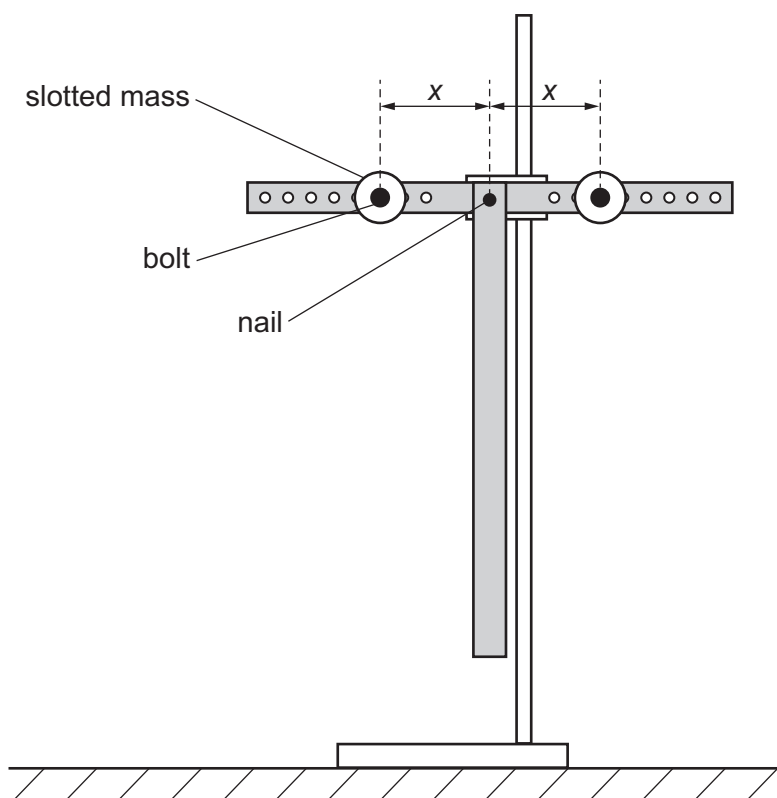

Fig. 1.3
- Attach two 50g slotted masses to the pendulum using the bolts and nuts. Use two holes which are the **same distance** x from the nail, as shown in Fig. 1.3.